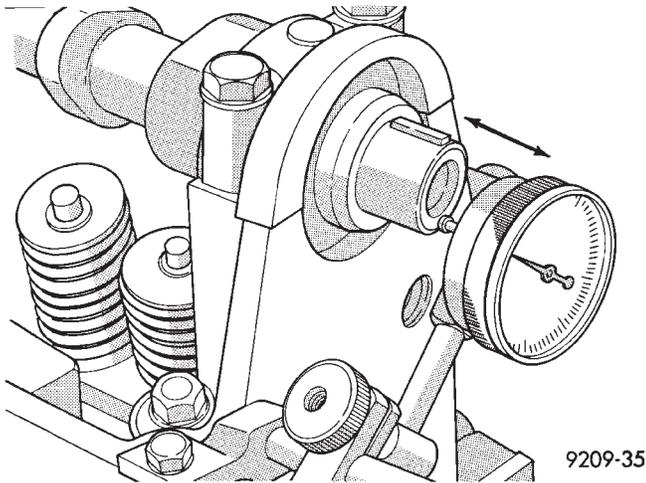

Fig. 9 Camshaft End Play
(1) Oil camshaft journals and install camshaft without cam followers. Tighten screws to specified torque.
(2) Using a suitable tool, move camshaft as far rearward as it will go.
(3) Zero dial indicator (Fig. 9).
(4) Move camshaft as far forward as it will go.
(5) End play travel: 0.13 - 0.33mm (0.005 - 0.013 inch.).
(6) Remove bearing caps and camshaft.